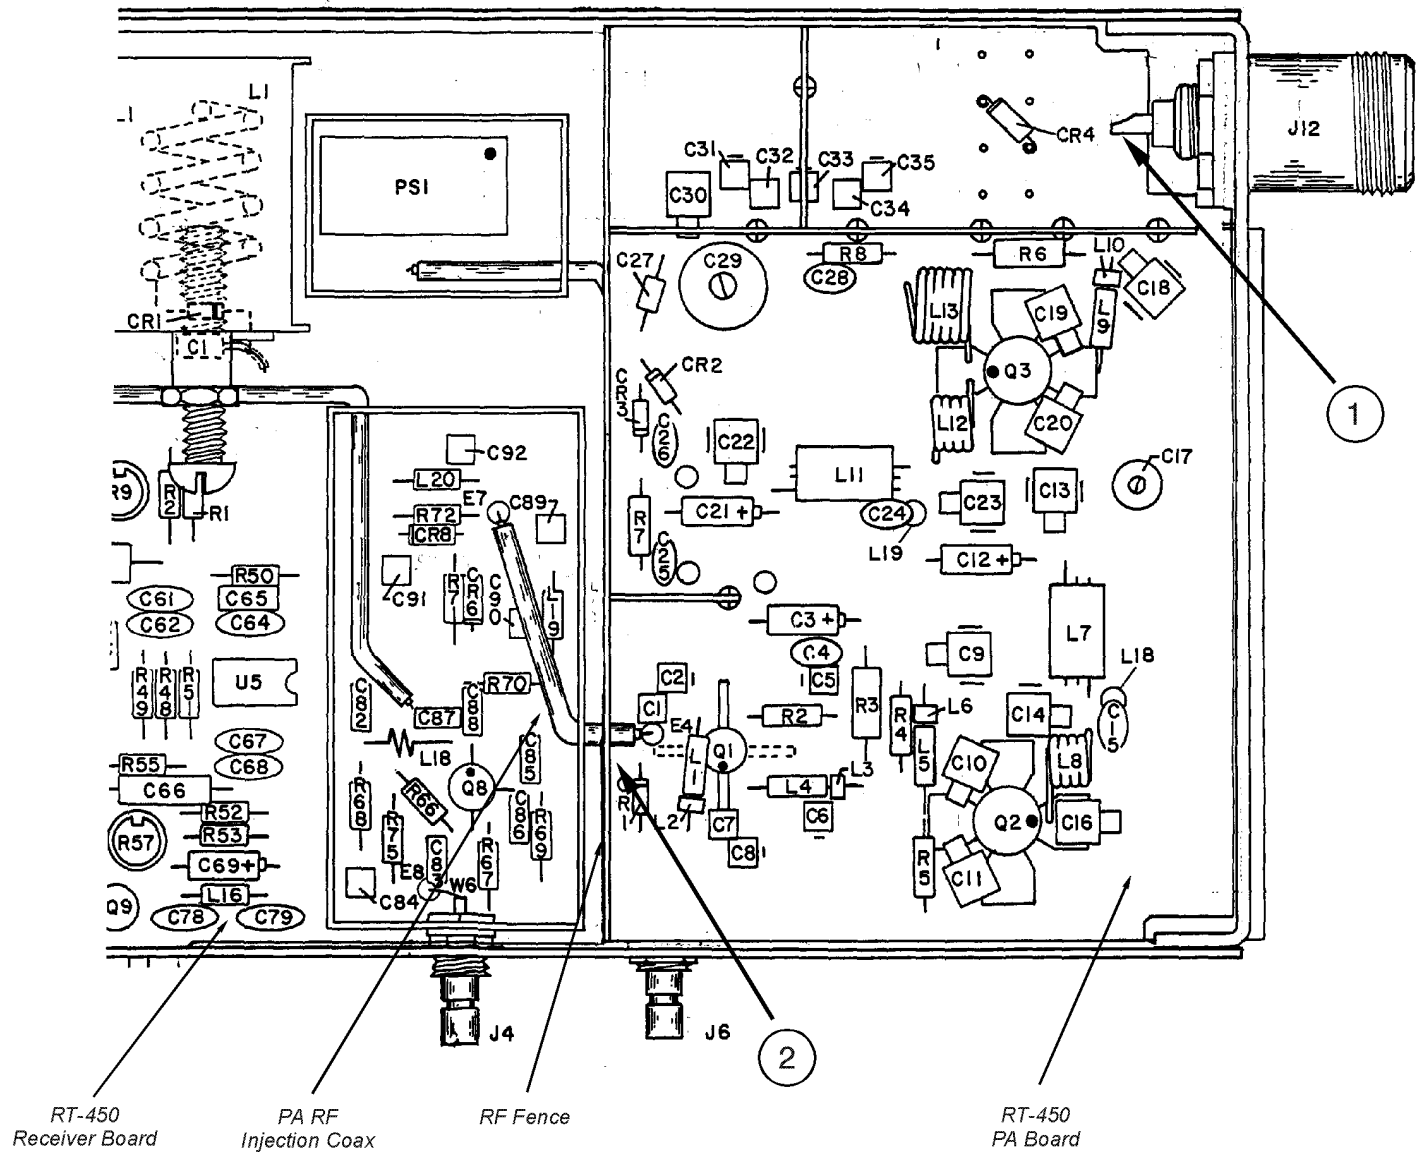
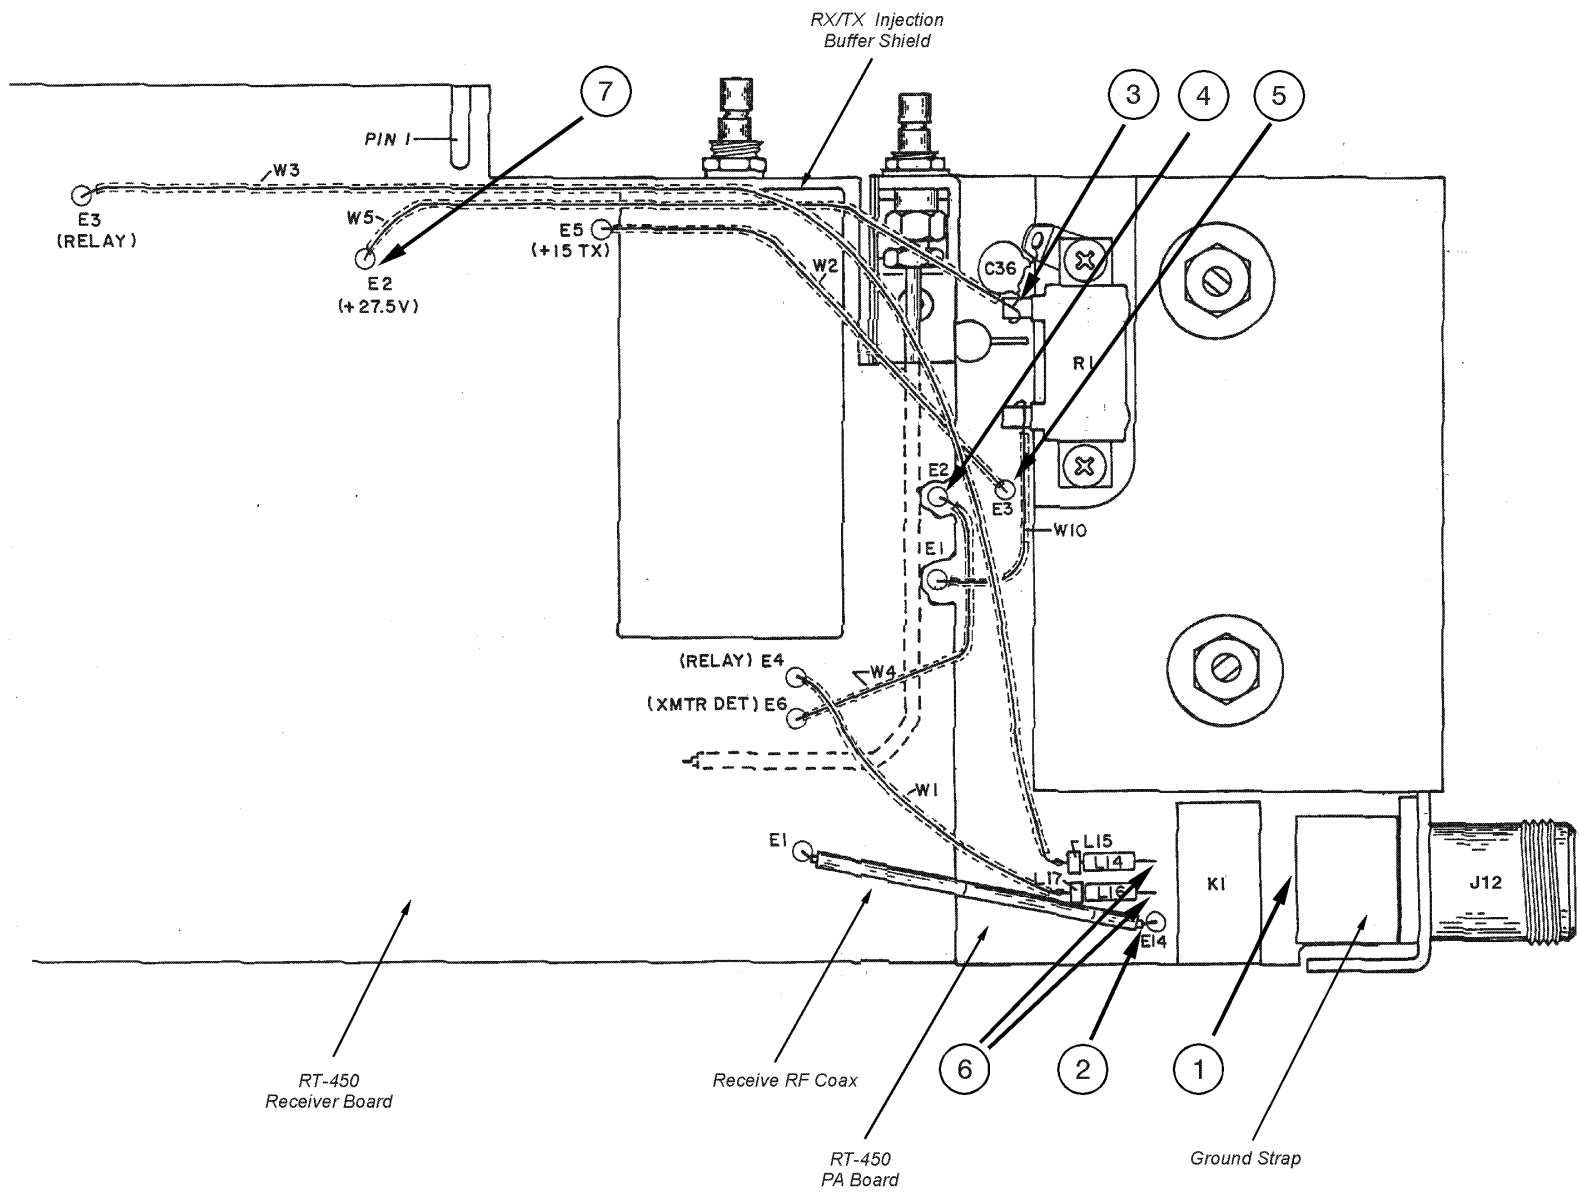
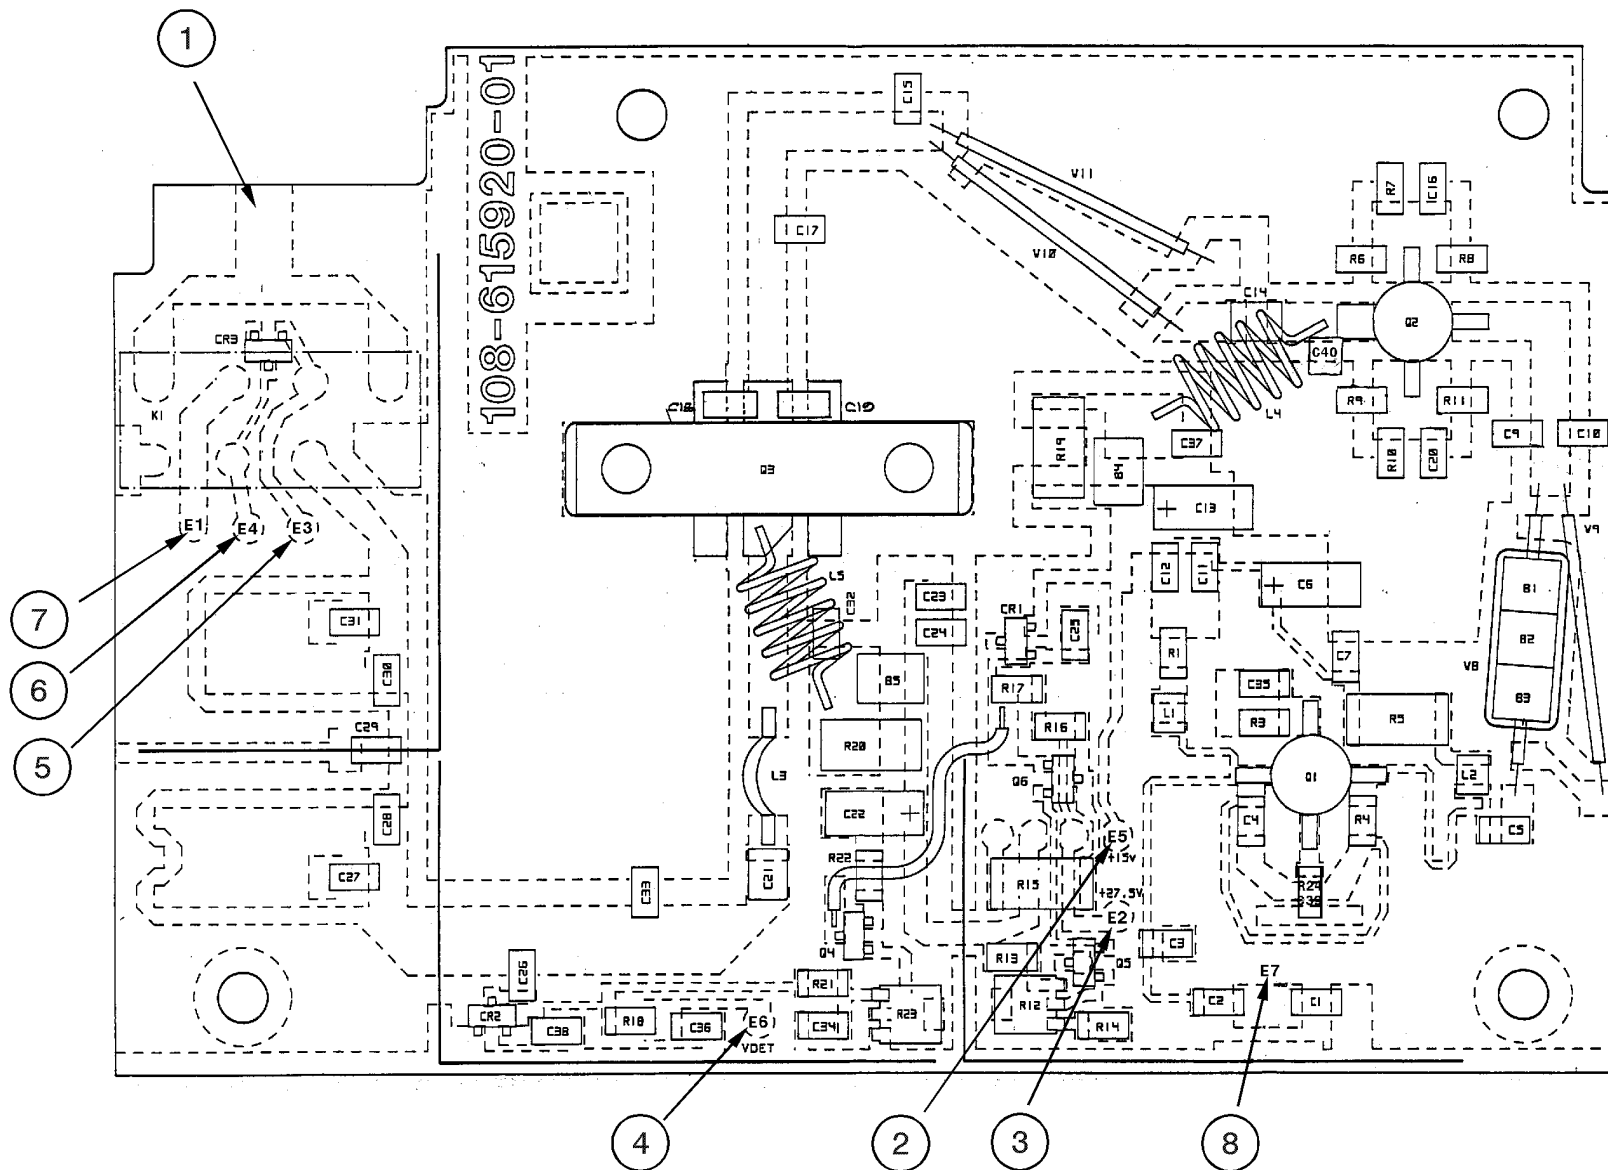

Figure 1. RT-450 R/T Module (Front Side)
Figure 2. RT-450 R/T Module (Back Side)
Figure 3. RT-406F PA Board
3. Desolder center conductor of N-type receptacle J12 (Figure 1, callout 1) on PA front side and ground strap (Figure 2, callout 1) on PA back side in order to remove connector and bracket assembly from the RT-450 PA.
4. Desolder PA RF Injection coax (Figure 1, callout 2) from RF fence at entrance to PA on front side.
5. Desolder and lift Receive RF coax from land E14 next to relay K1 (Figure 2, callout 2) on the back side of PA.
6. Desolder wire W5 (ORG/WHT) from power resistor R1 on end with capacitor C36 (Figure 2, callout 3) on the back side of PA.
7. Desolder wire W4 (WHT/GRY) from land E2 (Figure 2, callout 4) on back side of PA.
8. Desolder wire W2 (VIO/WHT) from land E3 (Figure 2, callout 5) on back side of PA.
9. Desolder wires W3 (YEL/WHT) and W1 (BLU/WHT) (Figure 2, callout 6) on back side of PA.
1. Install and solder N-type connector J12 (Figure 1, callout 1) and bracket assembly to RT-406 PA (Figure 3, callout 1).
2. Trim ½ inch from wire W2 (VIO/WHT) (refer to Figure 2). Solder onto land E5 (Figure 3, callout 2) on back side of PA.
3. Replace wire W5 (ORG/WHT) (refer to Figure 2) with a 4.5 inch length of 24 AWG stranded wire.
Desolder original wire W5 from land E2 on the back side of RT-450 Receiver Board (Figure 2, callout 7).
Solder one end of the replacement wire onto land E2 (Figure 3, callout 3) on back side of PA.
Solder the other end of the replacement wire onto land E2 on the back side of RT-450 Receiver Board (Figure 2, callout 7).
4. Solder wire W4 (WHT/GRY) (refer to Figure 2) onto land E6 (Figure 3, callout 4) on back side of PA.
5. Solder wire W3 (YEL/WHT) (refer to Figure 2) onto land E3 (Figure 3, callout 5) on back side of PA. Apply RTV under the relay wire beads to secure wires.
6. Solder wire W1 (BLU/WHT) (refer to Figure 2) onto land E4 (Figure 3, callout 6) on back side of PA. Apply RTV under the relay wire beads to secure wires.
7. Solder Receive RF coax (refer to Figure 2) onto land E1 (Figure 3, callout 7) on back side of PA.
9. Solder RT-450 PA RF Injection coax (refer to Figure 1) to E7 (Figure 3, callout 8).
10. Secure wires W5, W4, W3, and W1 (refer to Figure 2) to the end of the TX/RX injection buffer shield using Tac Pac adhesive to prevent wires from crossing over the shield.
11. Verify that the coax shield on the Receive RF coax (refer to Figure 2) is soldered to the ground plane, and that the coax shield of the RT-450 PA RF Injection coax is soldered to the RF fence.